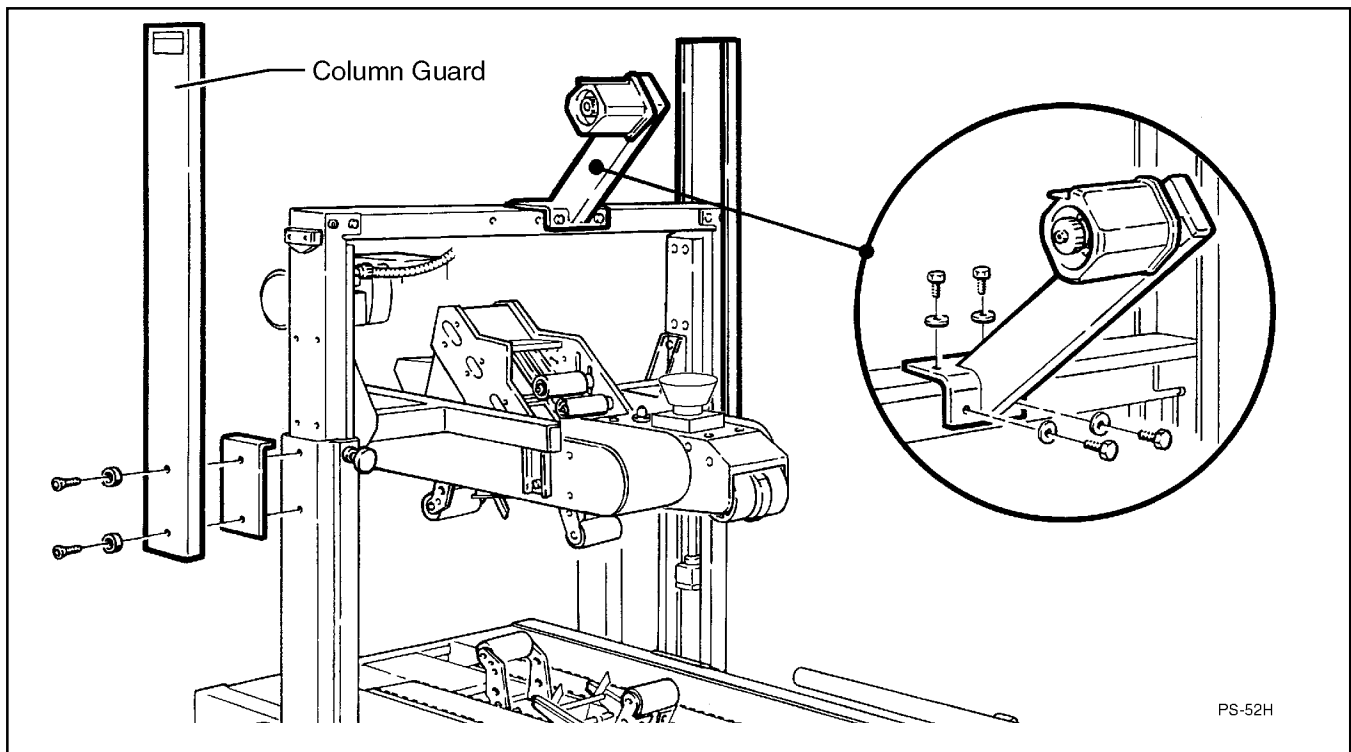

Figure 2-1 – 700rks Frame Set-Up
5. Install upper tape drum bracket on the inner column assembly crossbar as shown in Figure 2-1.
6. The column guards have been shipped loose with the machine. Install the guards on the outer columns as shown in Figure 2-1 using screws, washers and bumper stop plates that are shipped installed on the outer columns.